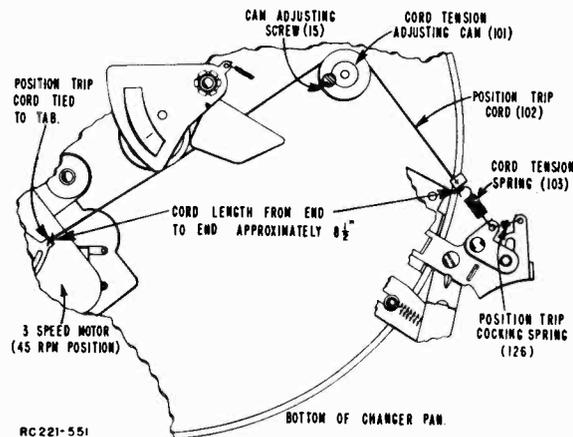

Figure 11. Adjusting Cord Tension.
The position trip cord (102) is ordinary braided silk or nylon dial cord approximately  $\frac{1}{2}$ " thick. To replace this cord, cut a piece of dial cord about 10" or 12" long and tie one end to the tab on the motor. See figure 11. This is most easily done by either making a slip knot so the knot will tighten when the cord is placed over the tab on the motor and pulled, or removing one end of the idler wheel spring (57) and pivoting the idler wheel and bracket out of the way. Tie the other end of the cord to the cord tension spring (103) so that the distance between the two knots is approximately  $8\frac{1}{2}$ ". Late production record changers have a metal clip (137) to fasten the cord at the tension spring end. After threading the cord under the control cam (91), hook the cord tension spring as shown in the illustration. Then adjust the cam (101) as outlined under "Position Trip Cord Tension Adjustment."